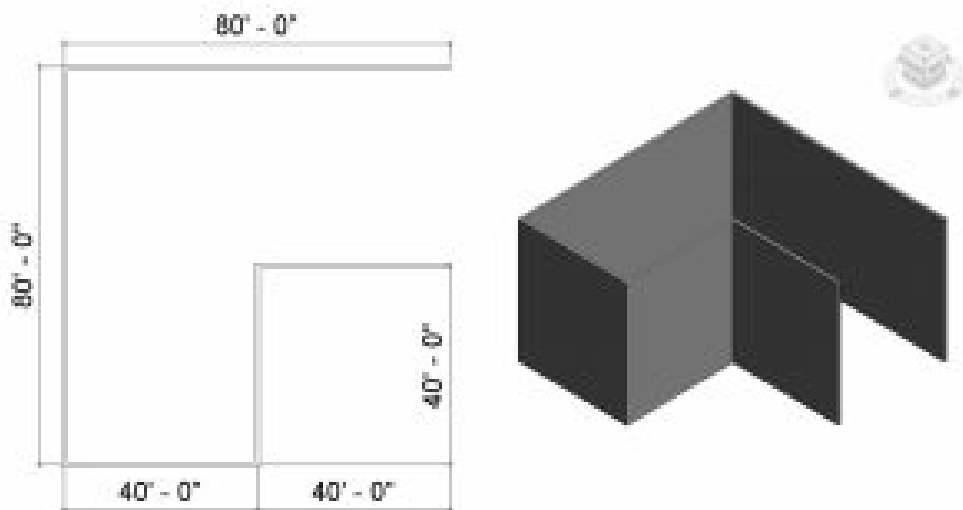

Figure 2.22 Generic 12" walls in plan view and 3D view
6. Click once to begin a wall from Figure 2.22